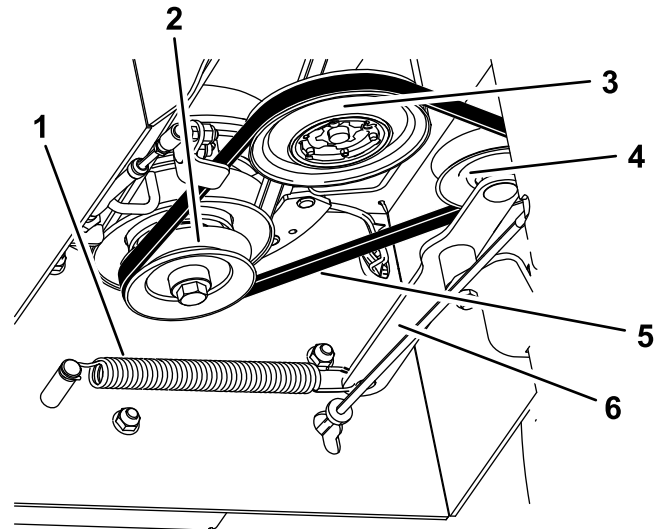

Figure 31
4. Remove the extension spring from the tension arm (Figure 31).
6. Wrap the new transmission belt around the clutch, transmission, and tension pulleys (Figure 31).